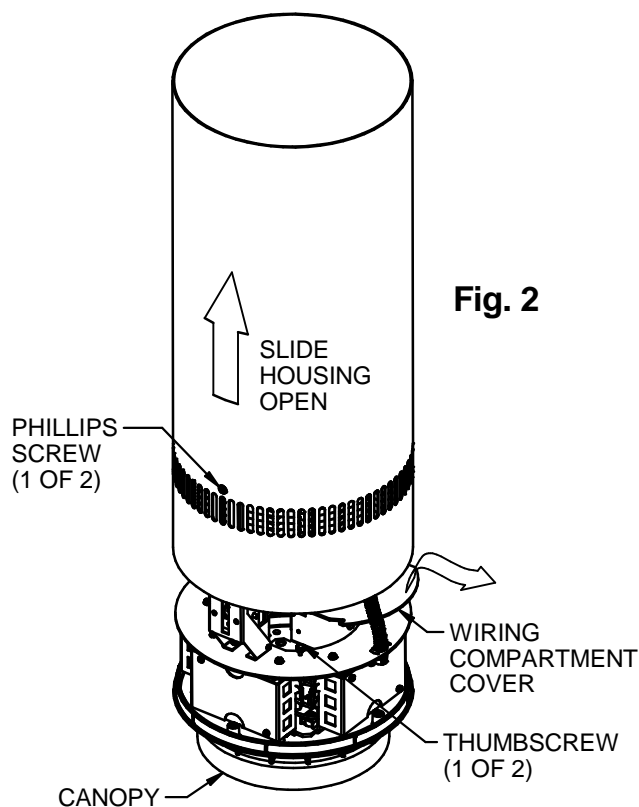

Fig. 2
3. Carefully stand the cylinder on its top canopy (the finned, cast end). Loosen (do not remove) the two Phillips screws on opposite sides of the cylinder (near the vent slots) until the screws disengage from the internal locking slots and the cylinder housing is free to slide. Slide the outer cylinder housing open towards the reflector (it should move about 7 inches from the top finned casting) and tighten the two Phillips screws until the cylinder housing maintains its open position (**Fig. 2**).